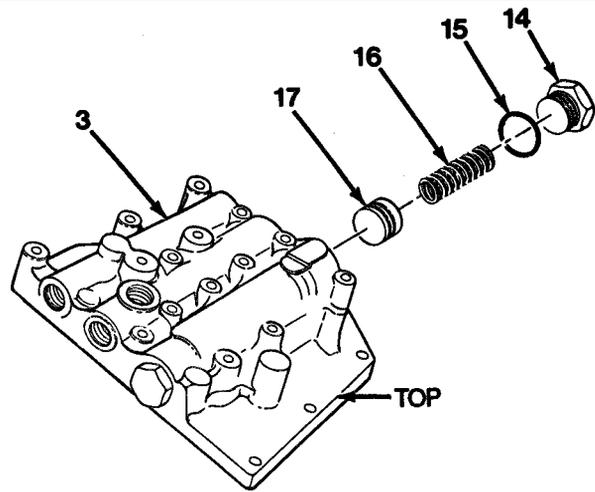
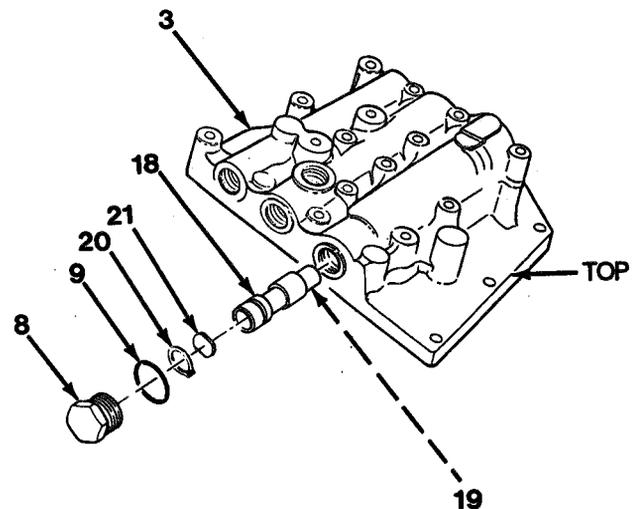
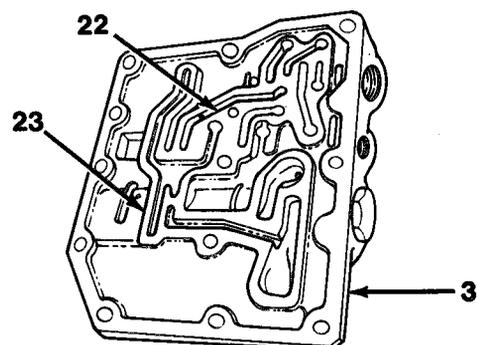

Figure 11-4
Figure 11-5
Figure 11-6
10. Remove stem assembly (12) from bottom bore of valve body (3).
11. Push forward/reverse stem (13) into valve body (3).
12. Remove oil seal (11) from center bore of valve body (3).
13. Remove forward/reverse stem (13) from center bore of valve body (3)
14. Remove dump valve plug (14) from top bore of valve body (3, Figure 11-4).
15. Remove O-ring (15) from dump valve plug (14).
16. Remove dump valve spring (16).
17. Remove dump valve (17) from top bore of valve body (3).
18. Remove plug (8), from top bore of valve body (3, Figure 11-5).
19. Remove O-ring (9) from plug (8).
20. Remove regulator spool (18) from top bore of valve body (3).
21. Remove shim (19), snap ring (20) and orifice plate (21) from regulator spool (18).
22. Remove rolled needle (22) and roller (23) from back side of valve body (3, Figure 11-6).